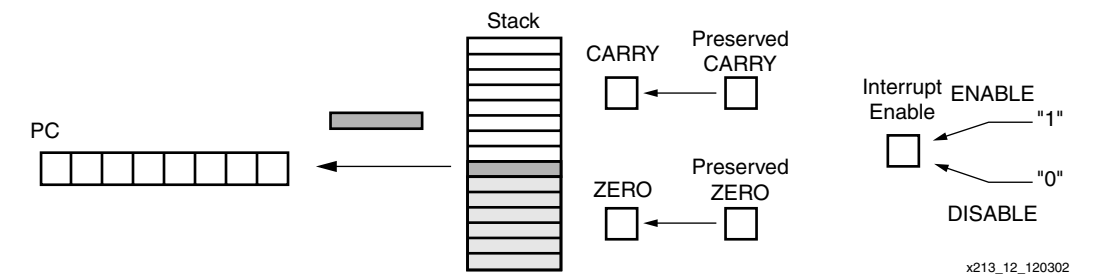

Figure 17: RETURNI Instruction
The RETURNI instruction (Figure 17) is a special variation of the RETURN instruction. It concludes an interrupt service routine. The RETURNI is unconditional and always loads the program counter (PC) with the last address on the program counter stack. The address does not increment in this case, because the instruction at the address stored needs to be executed. The RETURNI instruction restores the flags to the point of interrupt condition. It also determines the future ability of interrupts using ENABLE and DISABLE as an operand.